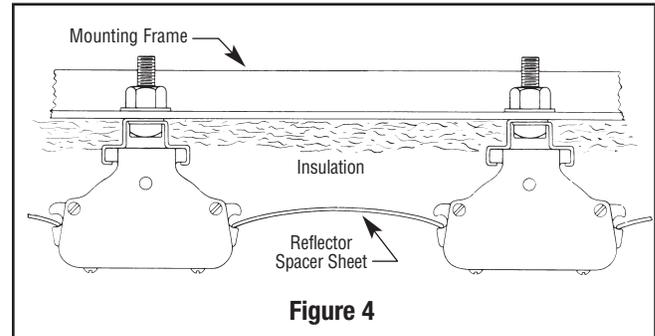

Figure 4
5. Reflector Spacer Sheets — Where heaters are not mounted side by side (see Figure 4), reflector spacer sheets can be used between heaters. These reflector spacer sheets and companion reflectors consisting of an extruded aluminum housing with reflector sheets and mounting clamps are available. Check factory.
6. Insulation — Where unusually high work temperatures are encountered, it may be desirable to insulate backs of heaters with high-temperature fibrous insulation. A suggested method of accomplishing this is indicated in Figure 4.